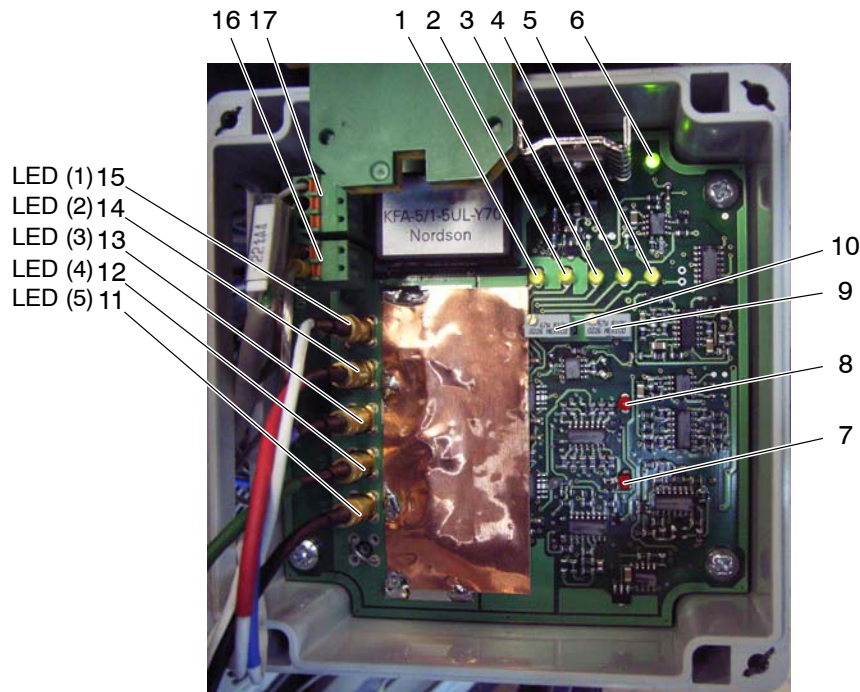

Fig. 7-41 Sensor cable colors black (bk) – green (gn) – blue (bl) – red (rd) – white (wh)
1. Turn potentiometer *P3* (10, Fig. 7-41) until the LED *Tank empty* (1, Fig. 7-41) just begins to light up.
4. Turn potentiometer *P4* (9, Fig. 7-41) until all of the LEDs (2 to 5, Fig. 7-41) just begin to light up. Manufacturing tolerances may cause the LEDs to light up at different times.